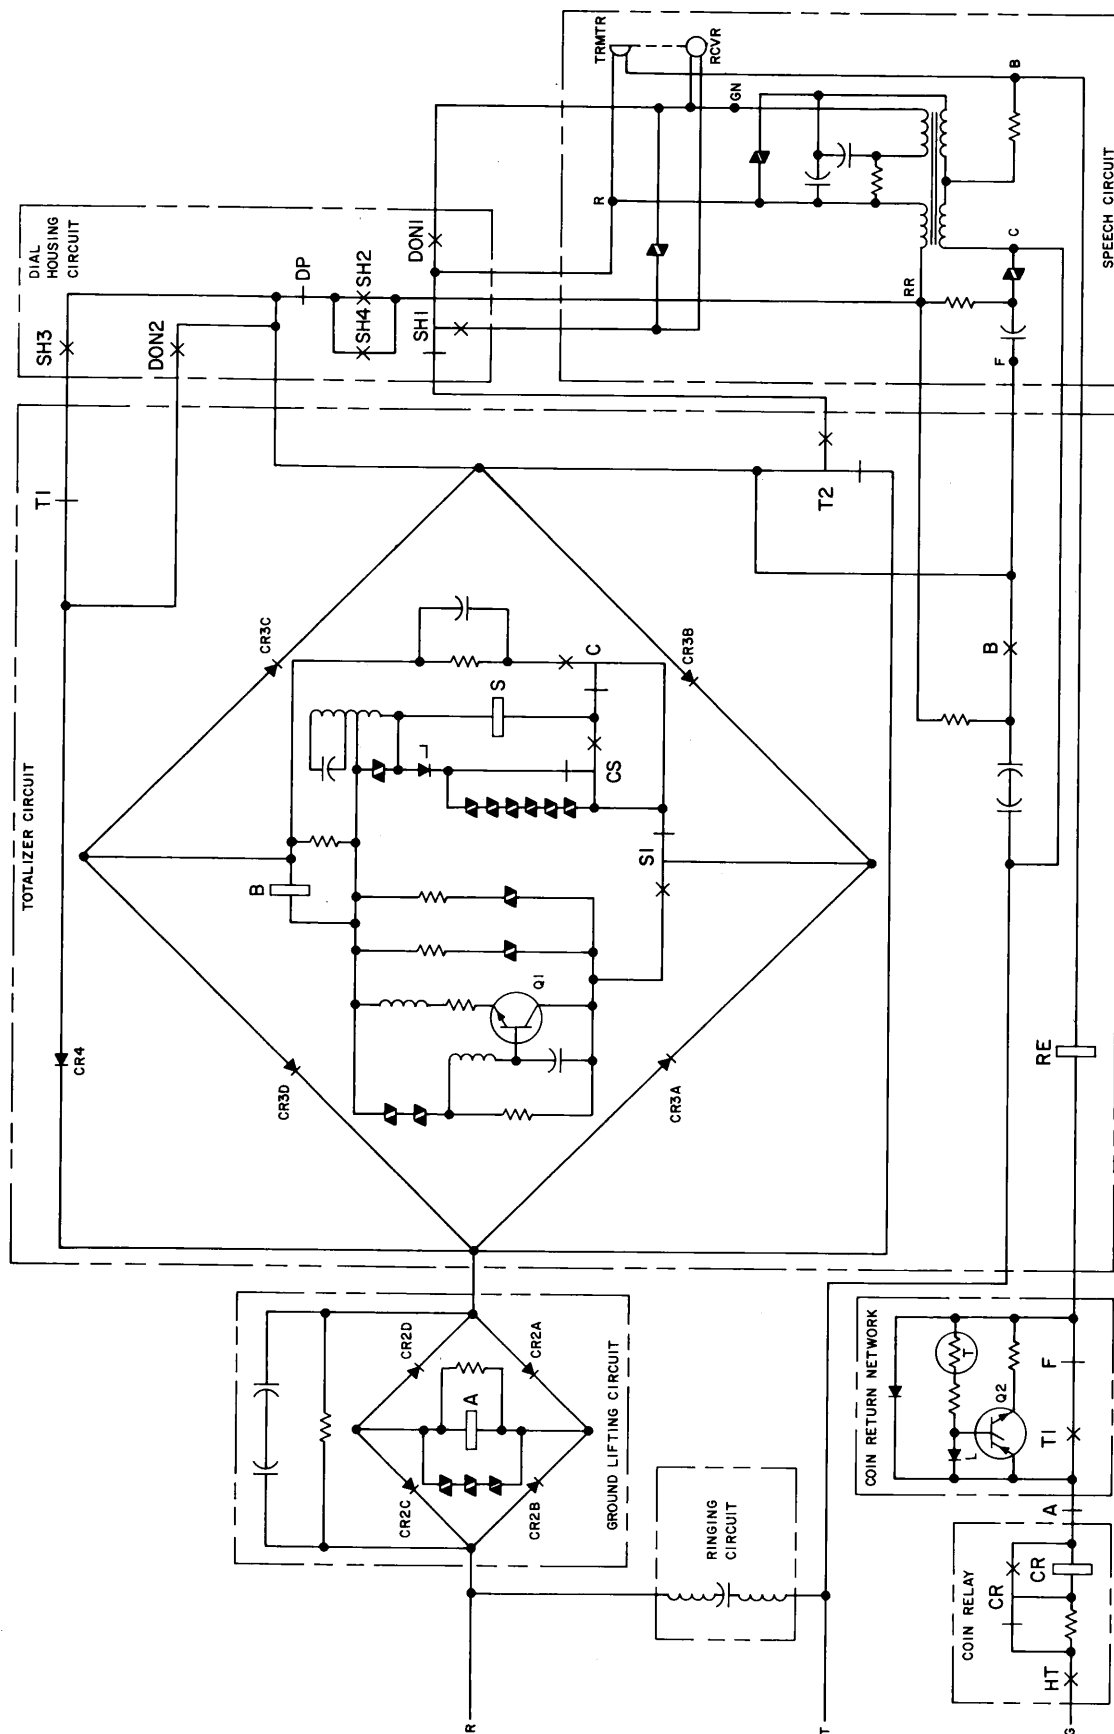

Fig. 9—1C1/2C1 Coin Telephone Set—Schematic (DTF Mode)
Other Component Circuits (Fig. 9 through 12)
2.21 Ground Lifting Circuit (Used in DTF only) (Fig. 9 and 10):
2.22 Coin Return Network (Used in DTF only) (Fig. 9 and 10):
DIAL-TONE-FIRST SERVICE (Fig. 9 and 10)